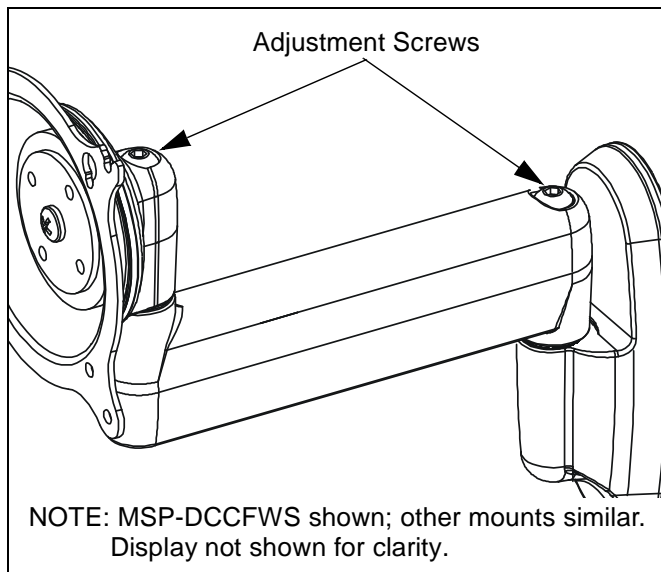

Figure 13
1. Using key (H), slightly loosen or tighten the adjustment screw(s) as necessary. (See Figure 13)